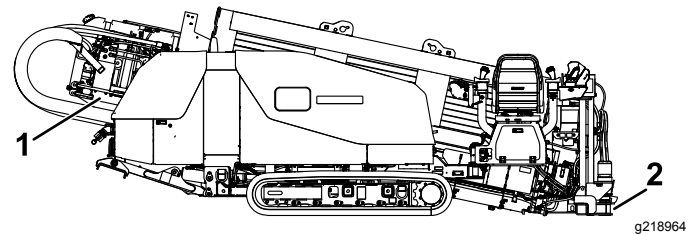

Figure 60
2. Switch the DRILL/SETUP switch to the SETUP position, lower the thrust frame, tilting the drill frame until the plate contacts the ground (Figure 60).